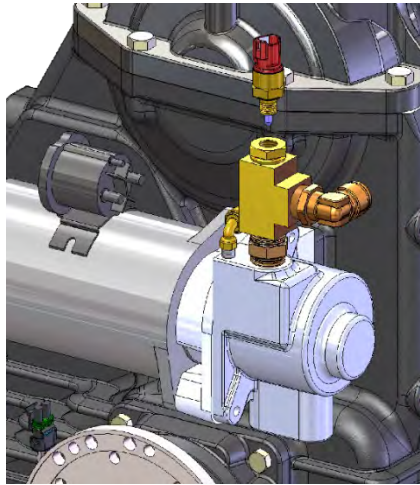

Figure 56. Water Detection Sensor R&R (Primer)
- Locate failed sensor (front of Autolube [Figure 55], bottom of gearbox [Figure 56], or top of primer [Figure 56]).
If the brass reducer bushing at the primer is damaged, replace the bushing. See Table 43 and Figure 56.